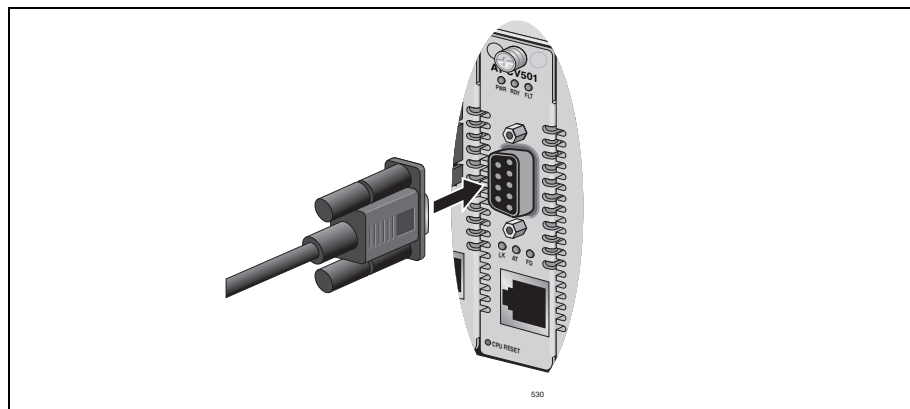

Figure 11. Connecting the Management Cable to the Management Card's Console Port
1. Connect one end of the management cable included with the management card to the Console port on the management card, as shown in Figure 11. If the chassis has two AT-CV5M02 Management Cards, start the session on the active management card, identified by its green RDY LED.